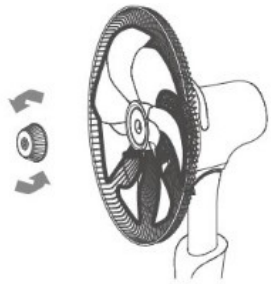

FIG.11
- ◆ Check if the fan blade is inserted correctly onto the motor shaft and the back of the fan blade is completely aligned with the axle pin (refer Fig.11 / Assembly Step 4, Pg.7).